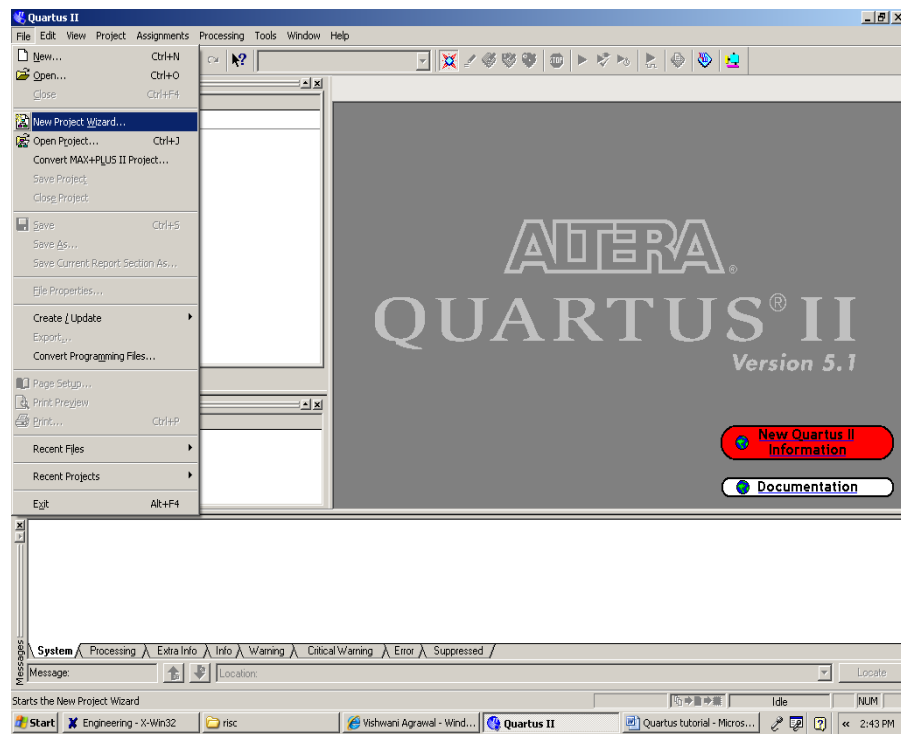
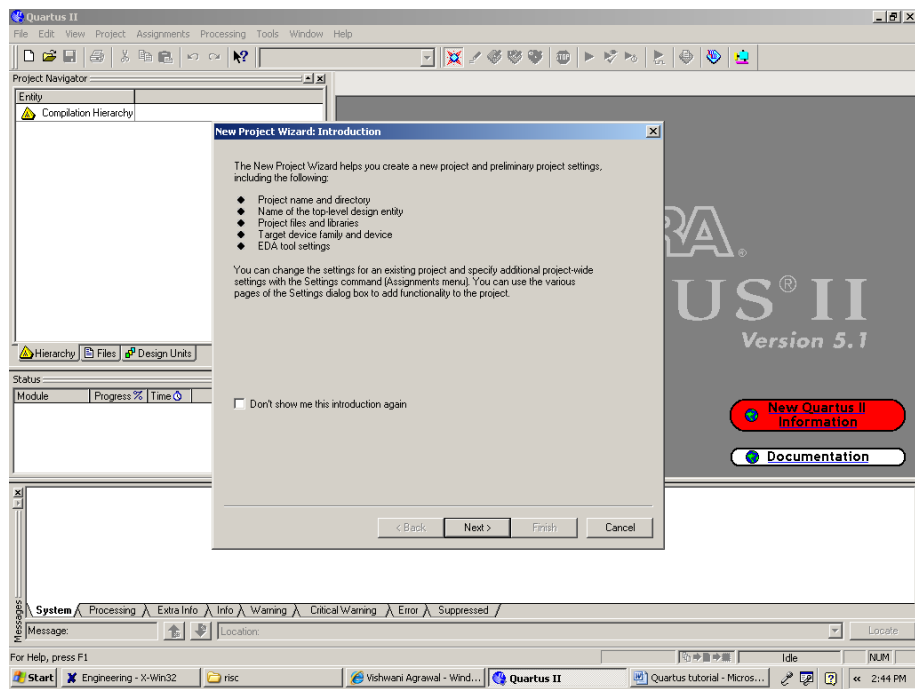
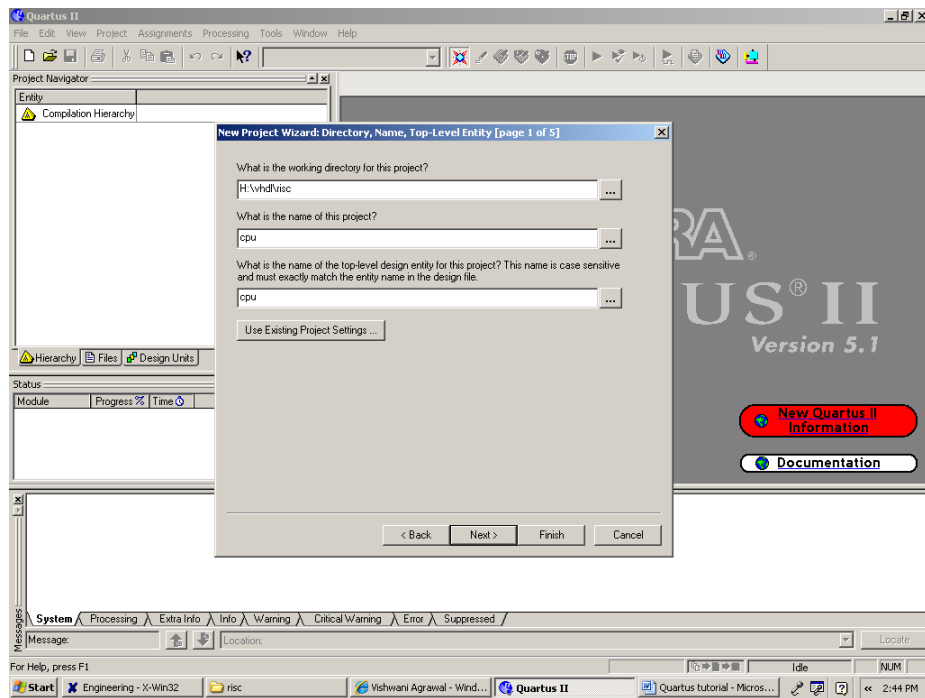

Fig 2
Fig. 3
Fig. 4
2) To start working on a new design we first have to define a new design project. Create a new project as follows: Select File >New Project Wizard as shown in Figure 2 to reach the window in Figure 3. You can skip this window. Press Next to get the window shown in Figure 4.